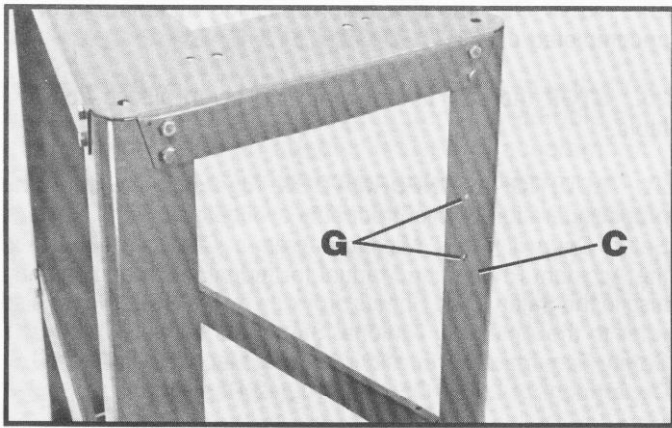

Fig. 5
4. The two holes (G) Fig. 5, in right front stand leg (C) are used for mounting the blade wrench holder to the stand.